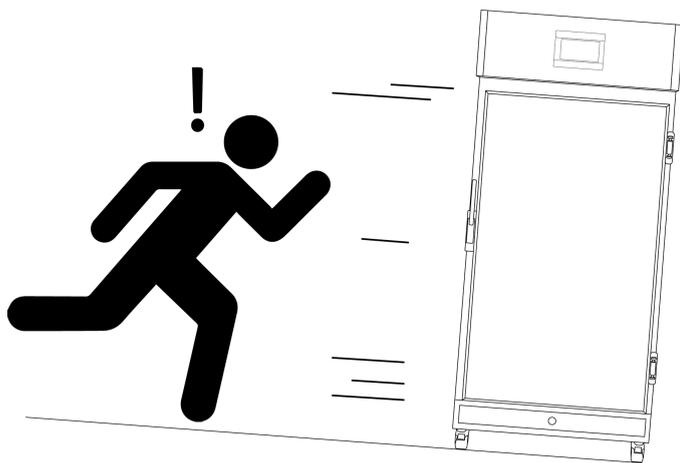

Fig 1.
- Castors can be fixed in place by pushing down on the brake lever. Ensure the castors are locked to prevent unwanted movement from the drying oven (**Fig 1**).